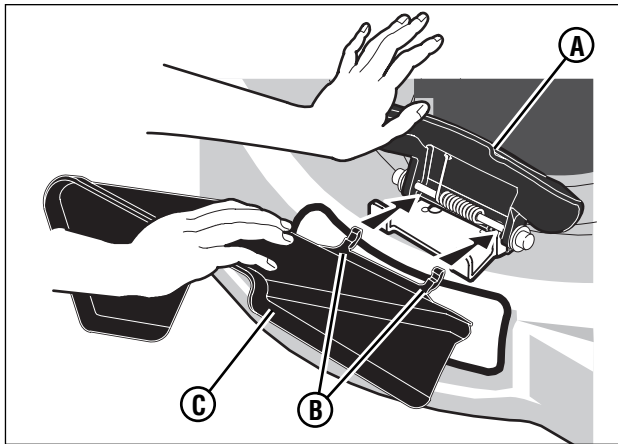

Figure 10: Installing the side discharge deflector
1. Raise the mulcher cover (**A**, **Figure 10**).